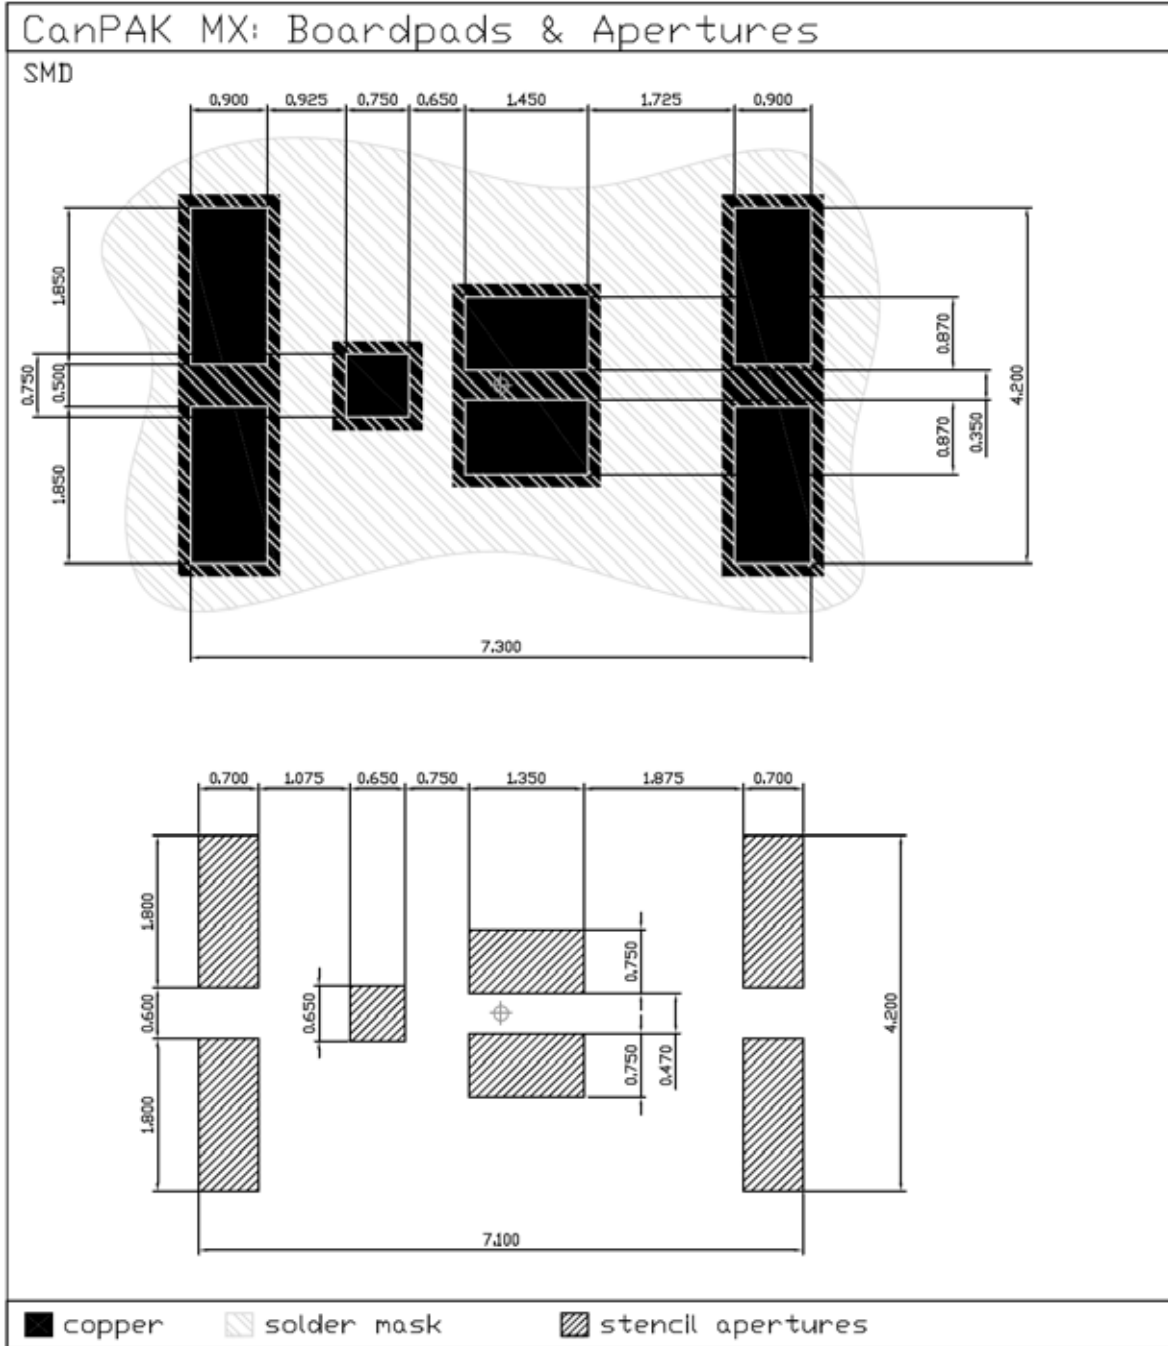

Figure 3 Outlines MG-WDSO-2, dimensions in mm/inches
1) See figure 3 for more detailed information